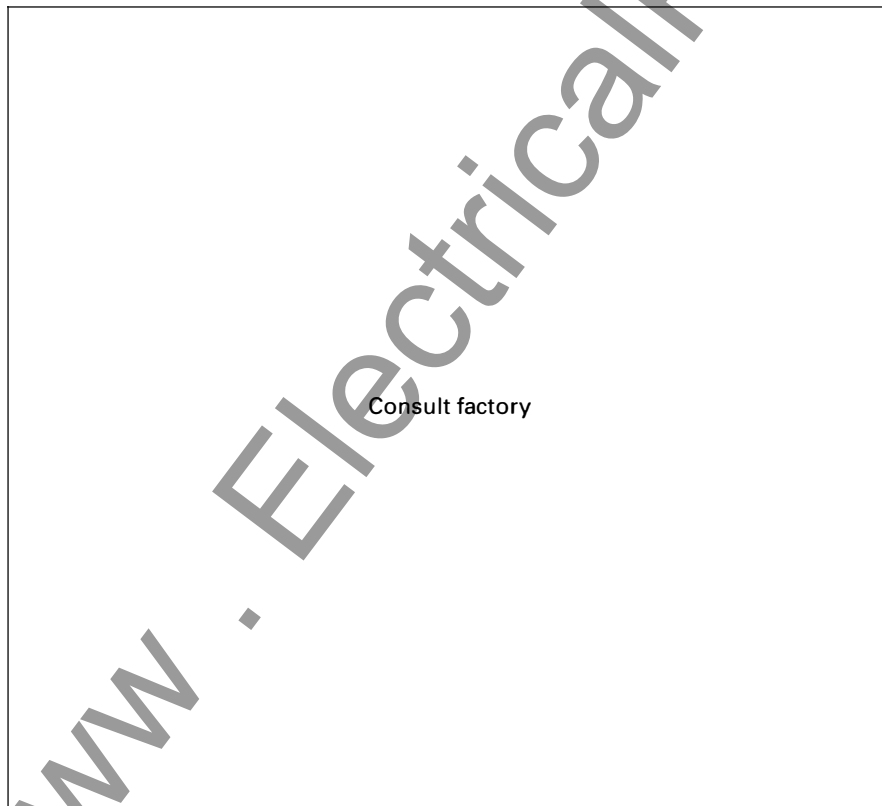

Figure 34-1. Electrical Life — AC-3 and AC-4 Utilization Categories
^{●●} See Figure 34-1, Life-Load Curves, for maximum operations per frame size at various amperes.
- Decide what utilization category the application is and choose the appropriate curve from Figure 34-1.